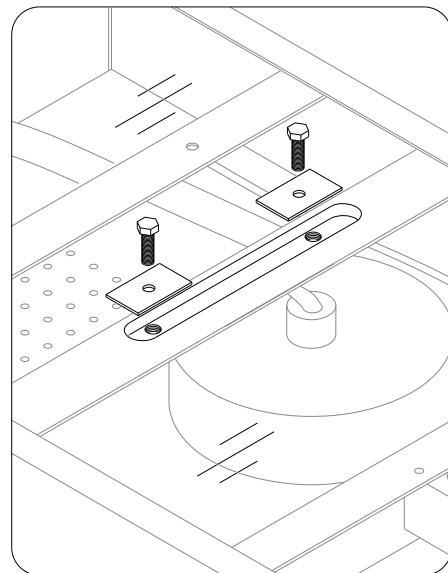

Fig. 24
16. Secure the **Roof** to the **Horizontal shower column** with **Bolt M8×24 (38)**. See fig. 24 for details.